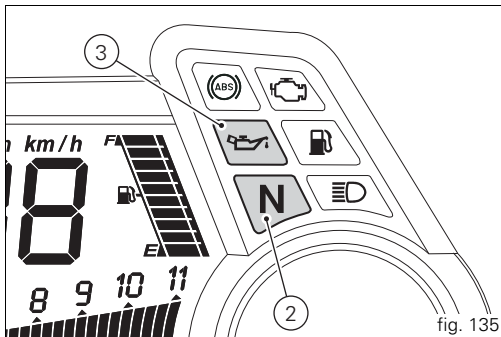

fig. 135
The instrument panel will perform the initialisation and will control the onboard systems, turning on all lights in sequence, from the bottom to the top, for a few seconds. After this control, only the green light (2, fig. 135) and the red light  (3) must remain on.